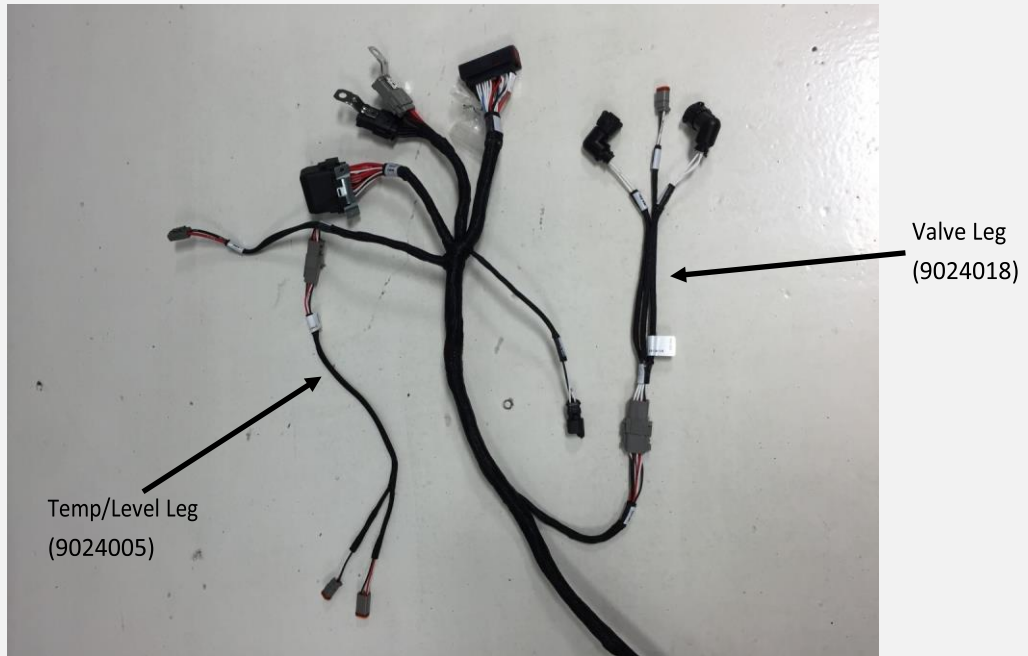

Figure 7.4
4. After laying the harness out, you can connect each leg individually to its branch off or on the truck (see Figures 7.4 and 7.5 next page).